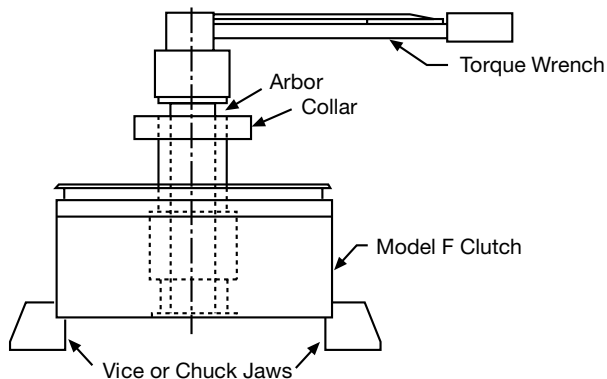

Figure 16
2. Insert the appropriate size arbor and key into rotor. (See Figure 16)
3. If the unit is a Model FJ or FG, place the locking collar (13) onto the sawcut section of the rotor and tighten. If the clutch is a Model FR, remove the access screw from the hole stamped 22 on the housing. Insert hex wrench through this hole and tighten the rotor setscrew. Replace the access screw.